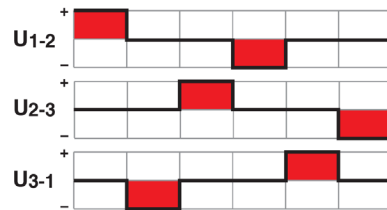

Figure 6-44 Block commutation of EC (BLDC) motors – Definition of phases
- either ensure that the alignment follows the specified pattern (→ Figure 6-44)